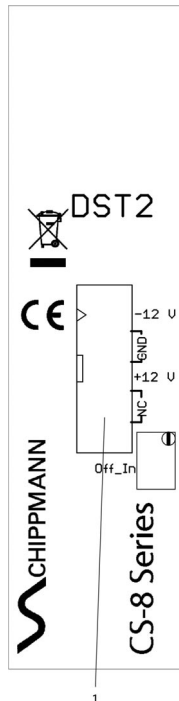

Fig. 2
Fig. 2 shows the back of the module with consecutively numbered elements.
The power connector's (1) pin-out in top view (refer to fig. 2) is assigned as follows:
To hook up power to the module, connect one of the IDC-jacks of the included flat ribbon cable to the connector (refer to fig. 2). Observe guide key for the polarity of the connector in order to avoid pin reversal. The **red tag** of the cable **is to match the triangle-label**.